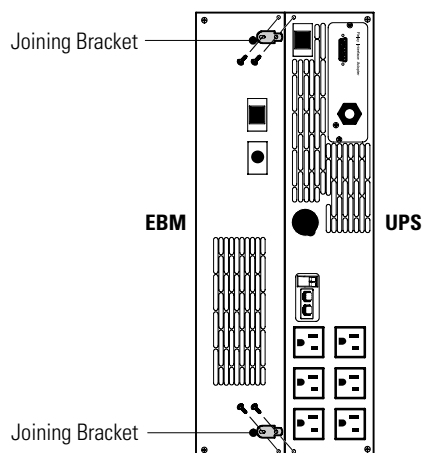

Figure 9. Installing the Joining Brackets
7. Remove the adjacent corner screws from the rear panels as shown in Figure 9 to install the joining brackets. Discard the screws.